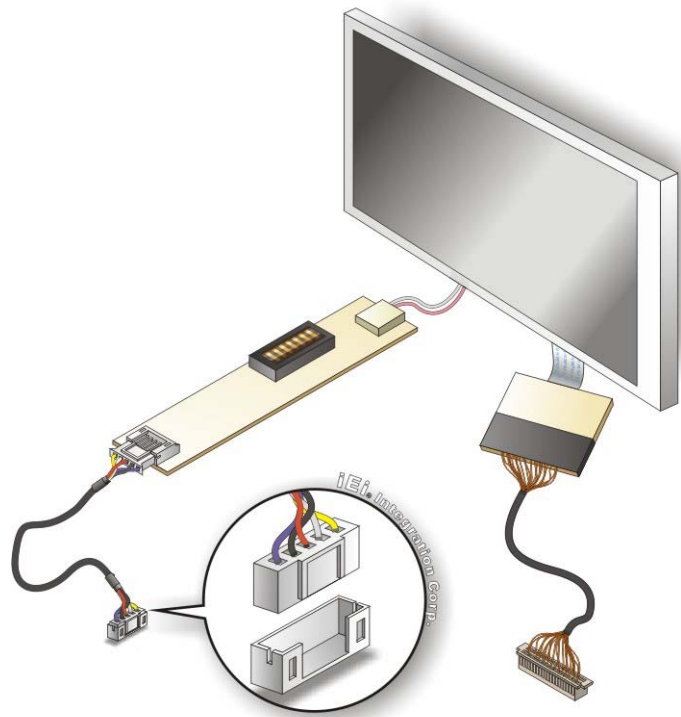

Figure 4-20: Backlight Inverter Connection
- Step 4:** **Connect backlight connector.** Connect the backlight connector to the driver TFT LCD PCB as shown in **Figure 4-20**. When inserting the cable connector, make sure the pins are properly aligned.